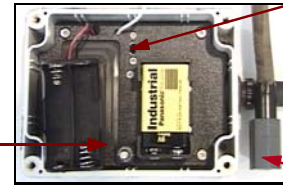

Fig 2 Beam Break Receiver
5. Set the receiver sensitivity to an initial setting of "0" for maximum sensitivity (See Fig 2).
6. Place the receiver in the set-up mode by sliding the setup-arm switch to the setup (UP) position (See Fig 2).